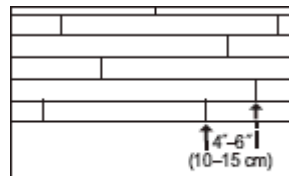

Figure 3
- Be attentive to staggering the ends of boards at least 4"- 6" (10-15 cm), when possible, in adjacent rows (Figure 3). This will help ensure a more favorable overall appearance of the floor.